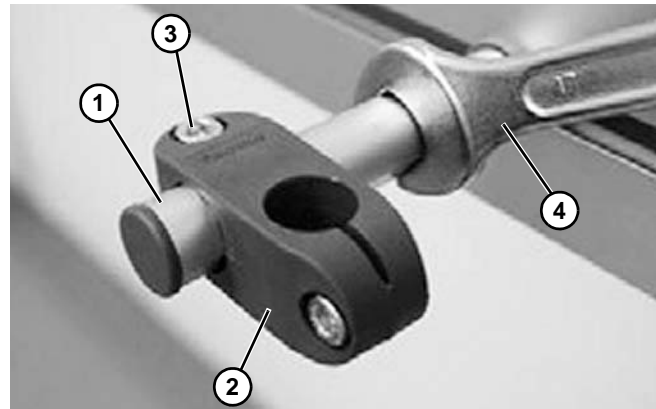

Figure 80
- Attach the guide rail (**Figure 80, item 1**) to the clamp (**Figure 80, item 2**). Tighten the screw (**Figure 80, item 3**). Remember, do not over tighten the screw.
- Use a wrench (**Figure 80, item 4**) to tighten the guide rail to the frame. Remember, do not over tighten the screw. Install remaining brackets.